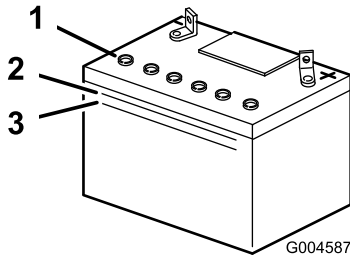

Figure 29
- Look at the side of the battery. The electrolyte must be up to the upper line (Figure 29).
Note: Do not allow the electrolyte to fall below the lower line (Figure 29).
- Remove the vent caps from the battery (Figure 29).
- Slowly pour distilled water into each battery cell until the electrolyte level is up to the upper line (Figure 29) on the battery case.
- Wait 5 to 10 minutes after filling the battery cells. Add distilled water, if necessary, until the electrolyte level is up to the upper line (Figure 29) on the battery case.